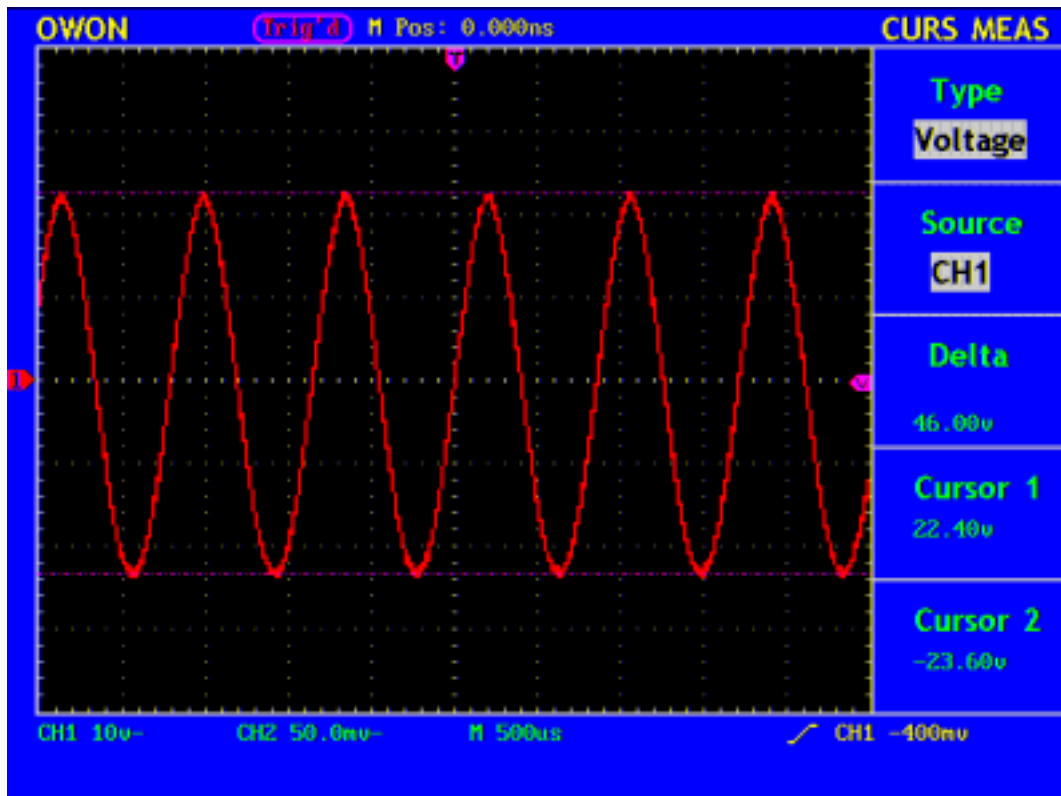

Fig. 58 Waveform of Voltage Cursor Measurement
4. Adjust the positions of **CURSOR1** and **CURSOR2** according to the measured waveform, with the absolute value of the voltage amplitude difference between Cursor 1 and Cursor 2 displayed in the increment window. The current position of Cursor1 is displayed in the Cursor1 window and that of Cursor2 is displayed in the Cursor2 window (see Fig. 58).